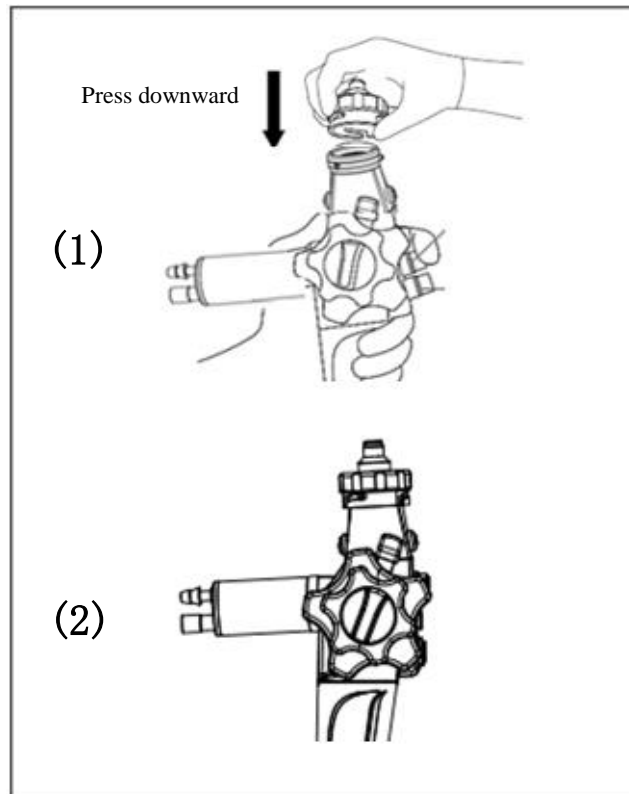

Figure 7.8
3. Press the waterproof cover and rotate it clockwise to the end. The rotation stroke is approximately 45°, as shown in Figures 7.8(1) and (2).